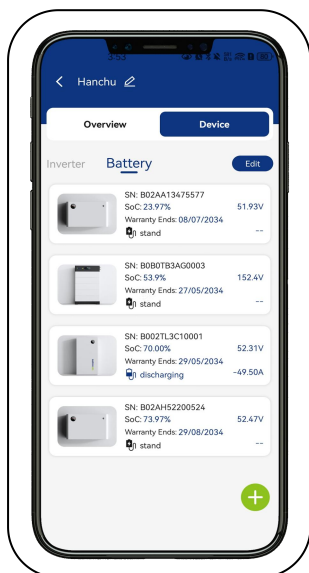

Figure 42
- After completing the above steps, you can view the battery data in HanchuESS app, as shown in Fig. 42.